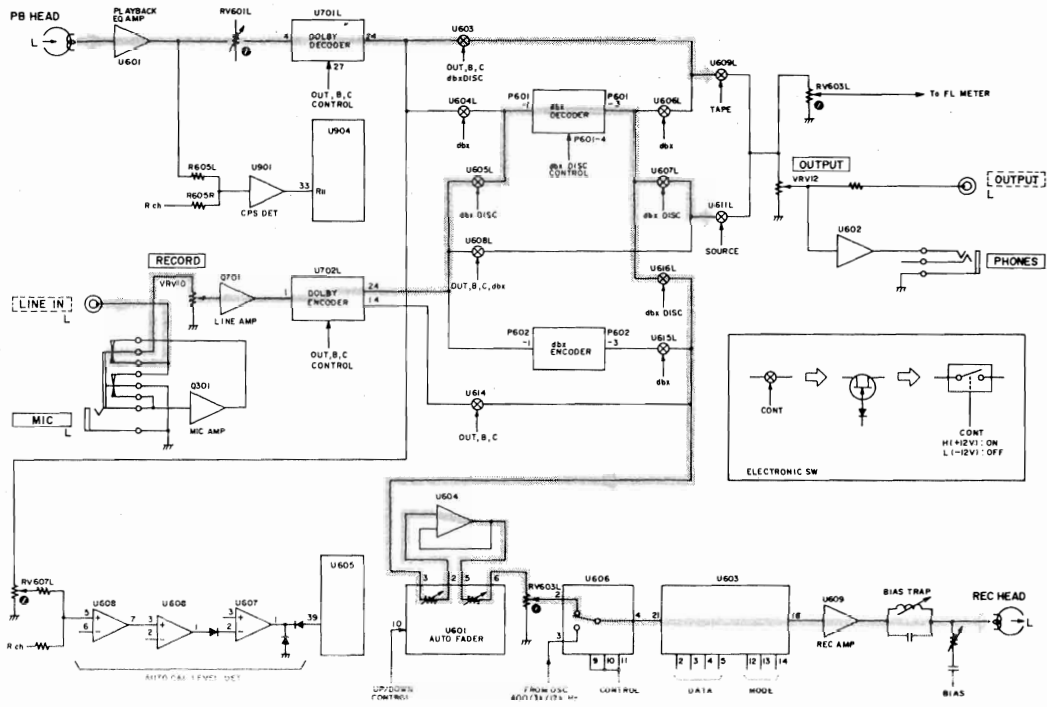

Fig. 10-3 V-900X Amplifier Block Diagram - dbx DISC
- dbx DISC on...see figure 10-3.